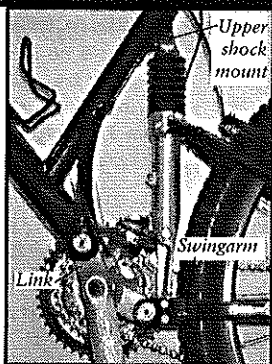

Fig. 29
1. Support the swingarm and remove the bolt at the upper shock mount (Fig. 29).
1. Install the upper shock bolt through the reducers, axle, and Igus bearings (Fig. 29). The shock mount bolt uses Spiralkut threads, so does not require Loktite. Tighten the bolt to 61-75 lb•in (6.9-8.5Nm).
3. Attach the upper shock mount hardware (Fig. 29) and tighten the shock mount bolt to 61-75 lb•in (6.9-8.5Nm).